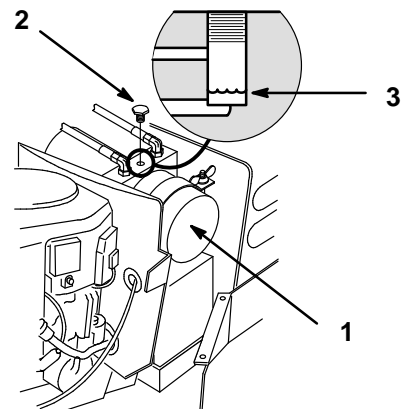

Figure 30
4. Remove the plug on top of the power lift pump. Fluid should be just above the bottom of the hole (Fig. 30).